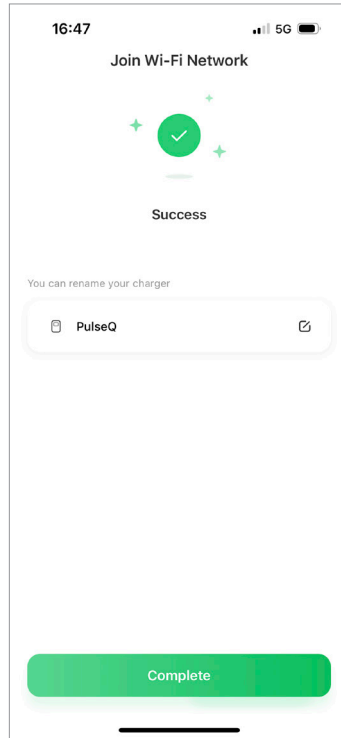

Fig. 5-12
3. Connected successfully. You can tap the  icon to rename your charger. (See Fig. 5-12)